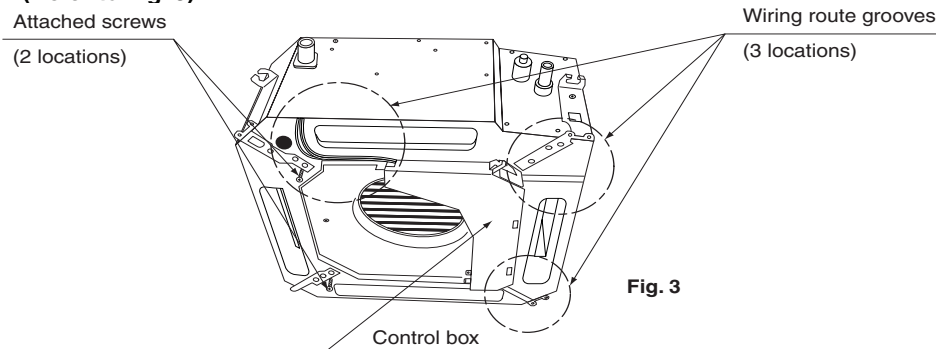

Fig. 3
2. Temporarily tighten the attached screws approximately 1/5" (5mm) into the opposing sides of the control box in the indoor unit. **(Refer to Fig. 3)**